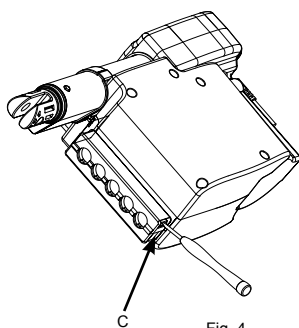
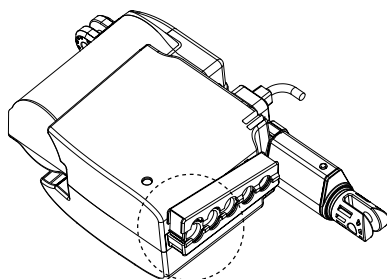

Fig. 4
Fig. 5
4.3.1 One side of the fixer can be released (Fig. 5) by strongly pressing both sides of the fixer on LAK4D controller (Fig. 4).